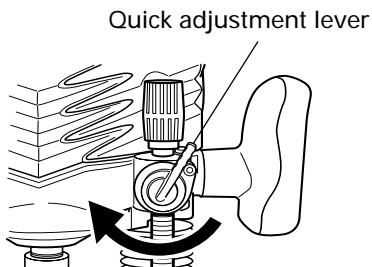

Fig. 7
- (2) Turn the quick adjustment lever in a clockwise direction until the quick adjustment lever stops with the stopper screw. (Fig. 7)